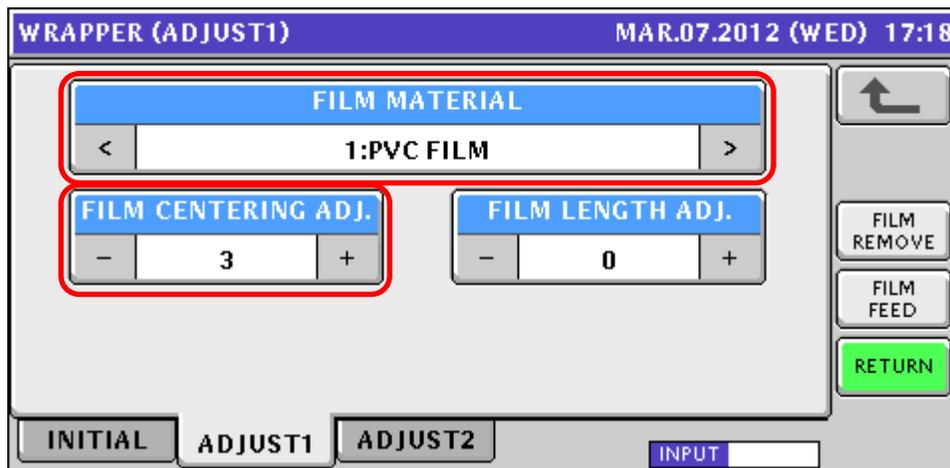

Figure 6.2.1. Film Material (Type) and Film Centering
- f. Set **FILM MATERIAL** = "1:PVC FILM" using the > or < keys. See Figure 6.2.1.
- a. Refer to step 6.2 to enter the **Wrapper (Adjust1)** page. See Figure 6.2.1.